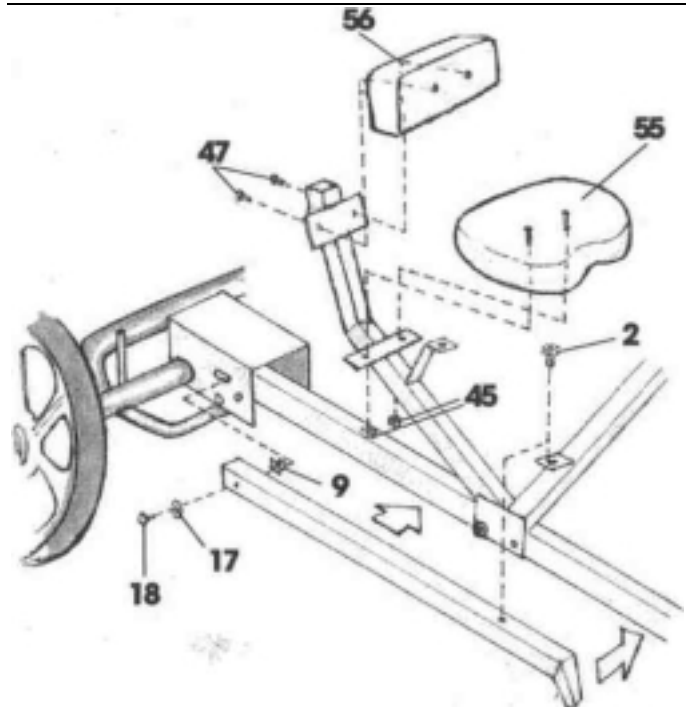

Fig. 4
Remove the screw (2) from the chainguard mounting bracket, located above the crank on the front frame (see figure 4). Insert the plastic screw grommet (9) into the rear frame section, as indicated in diagram. The slot in the back of grommet should be parallel with frame slot, so it will lock in place. Place the chainguard over the chainguard mounting bracket and on top of the rear frame. Align the holes at the front of the chainguard and secure with screw (2) previously removed. Line up the plastic grommet with the hole at the rear of the chainguard and secure with washer (17) and screw (18). Note: it may be necessary to move the plastic grommet forward or backwards in order to correctly line it up with the hole.
Secure the backrest (56) to the seat back using two hex head screws (47) (see figure 4). To install the western saddle seat (55), remove the nuts (45) from the bottom of the seat. Place the studs of the seat into the holes on the seat frame and secure with the nuts previously removed.